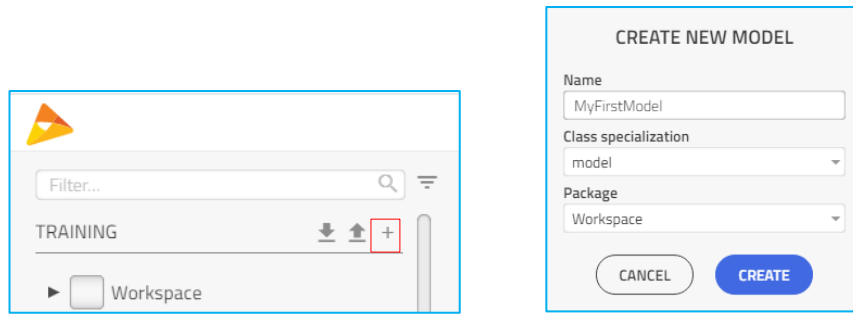

Figure 8 Creating a model
3. Give the new model the name **MyFirstModel** and press **Create**. By convention class names should start with an upper-case letter as shown in **Figure 8**. Note that the default package is selected to be **Workspace**.